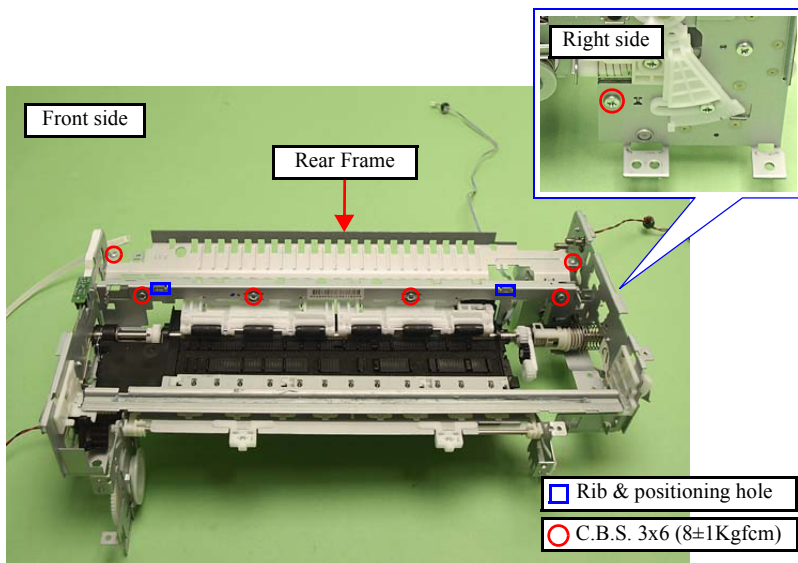

Figure 4-145. Removing the Rear Frame (2)
- Remove the screws (x5) that secure the Rear Frame and the screws (x2) that secure the CR Motor Holder, and remove the Rear Frame together with the CR Motor Holder. (See Fig. 4-127, Fig. 4-145.)
- Align the ribs (x2) of the Rear Frame with the positioning holes (x2) of the Main Frame. (See Fig. 4-145.)